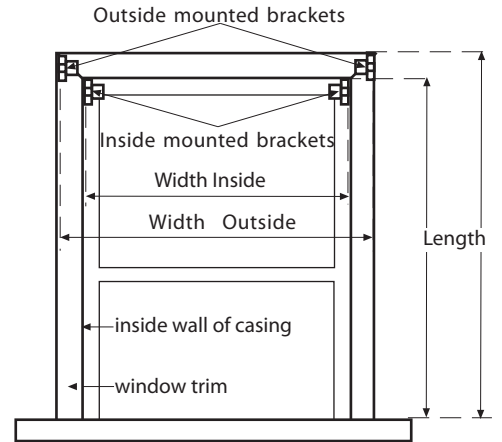

Figure 5. Measurements on a window
Step 1. Measurements (see Fig. 5)
Step 4. At the job site, install the brackets on the window casing according to Fig. 5. If brackets are going to be mounted inside the casing, try to position them as close to the window as possible, yet have enough space for the roller shade when completely rolled up.